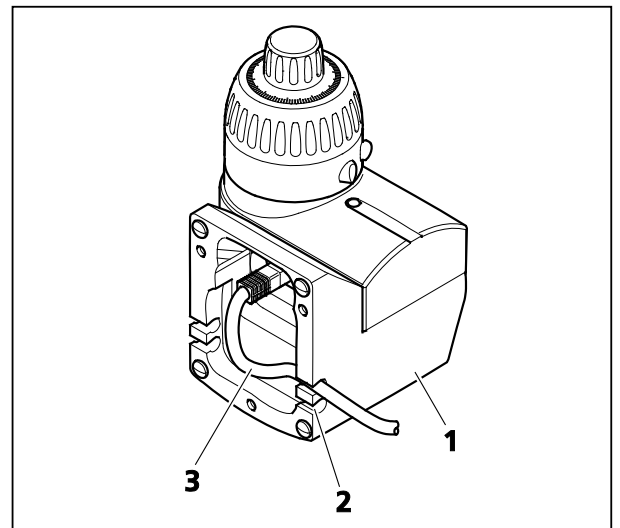

Fig. 11 Connecting CAN cable RJ 45 to MaRC with table-top base
- Plug the CAN cable RJ 45 (Fig. 11/3) into one of the two CAN bus ports of the MaRC (through the underside of the table-top base, Fig. 11/1) and connect to the motorized focusing drive.
- Pull the CAN cable RJ 45 to the outside through one of the two cut-outs (right or left, Fig. 11/2).